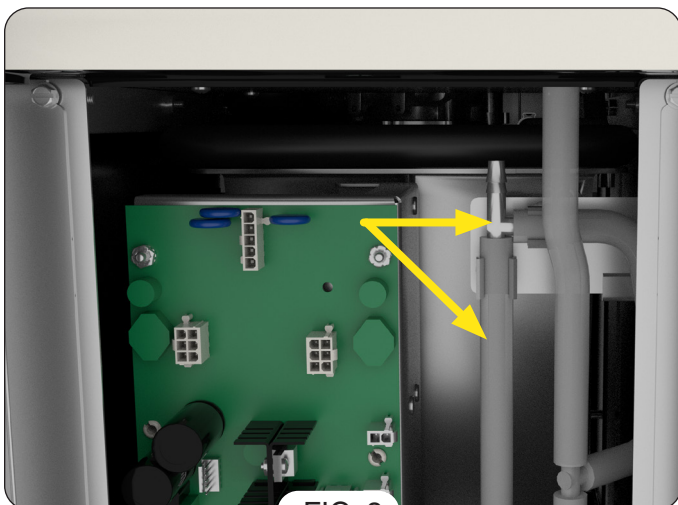

FIG. 3
1. Check water level in the sight gauge. Once the water stabilizes (level) in the sight gauge "T" fitting, extra water may trickle down the overflow tube into the drip tray. The compressor switch can be turned ON (Fig.3).